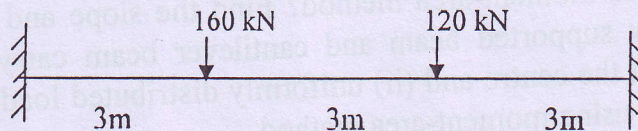

Figure 7
- (B) Find fixed end moments for a beam shown in figure 7. Draw S.F.D and B.M.D. 07